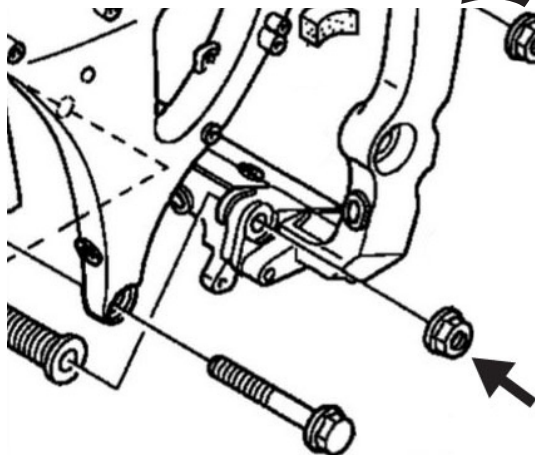

Fig 1.
3. Unbolt engine mount nut. (see fig 1)